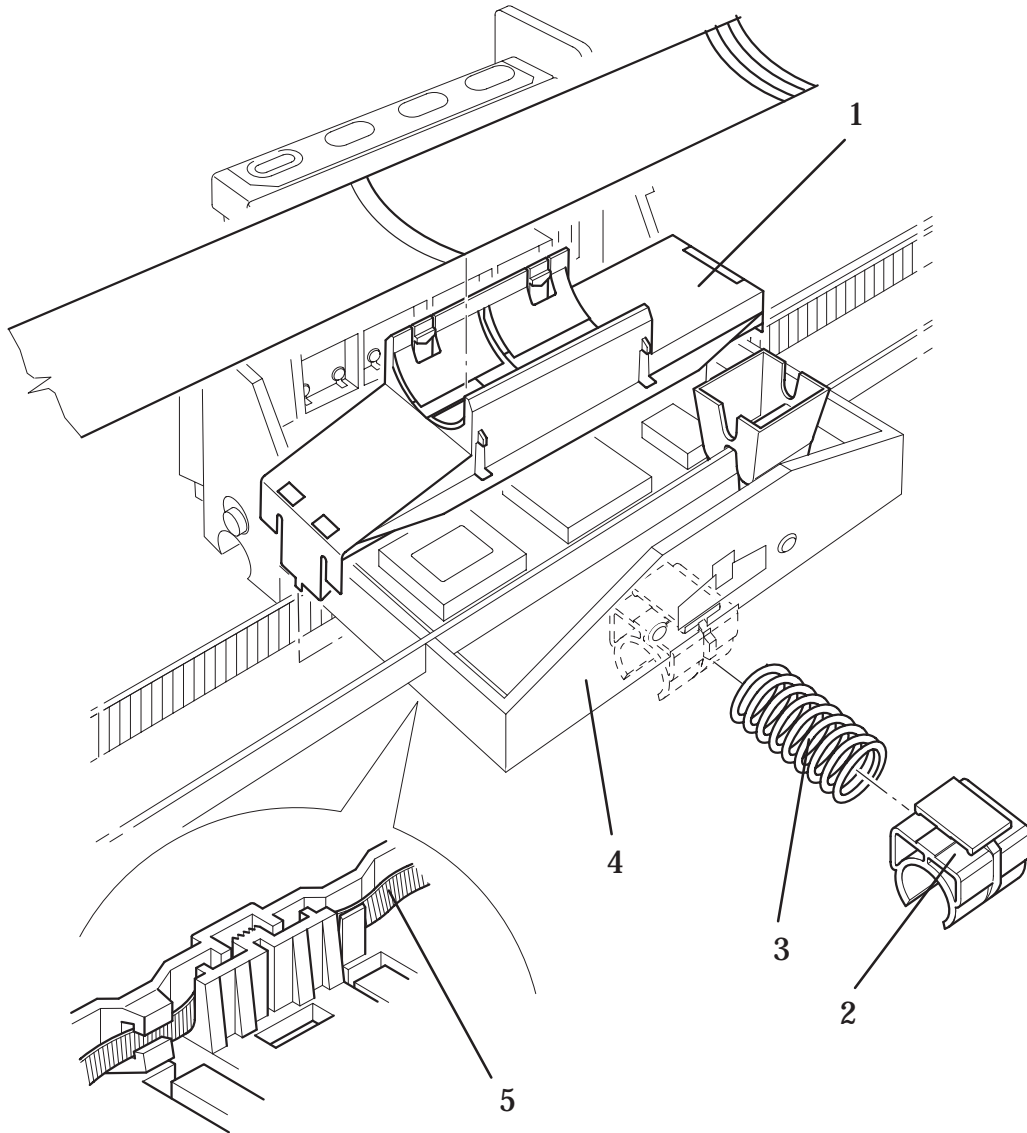

Figure 14: Carriage Assembly
1. Install the Y-axis belt (item 3) onto the carriage assembly making sure the belt is in between the two slider rods (see figure 14, item 5).
Refer to figure 14 ▶ page 8-44